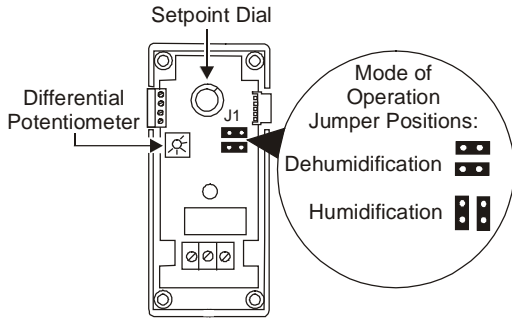

Figure 7: S351 Stage Module Adjustment and Potentiometer Locations
- Select dehumidification mode for offset and differential above setpoint. (See Figures 7 and 8.)
- Select humidification mode for offset and differential below setpoint. (See Figures 7 and 8.)
3. Adjust the S351 stage module's offset potentiometer to the desired offset value. The offset value is the difference in humidity from the W351 control module's setpoint that is required for the S351 stage module's relay to de-energize. (See Figures 7 and 8.)
4. Adjust the differential potentiometer to the desired differential value. The differential value is the difference in humidity from the offset that is required for the S351 stage module's relay to energize. (See Figures 7 and 8.)